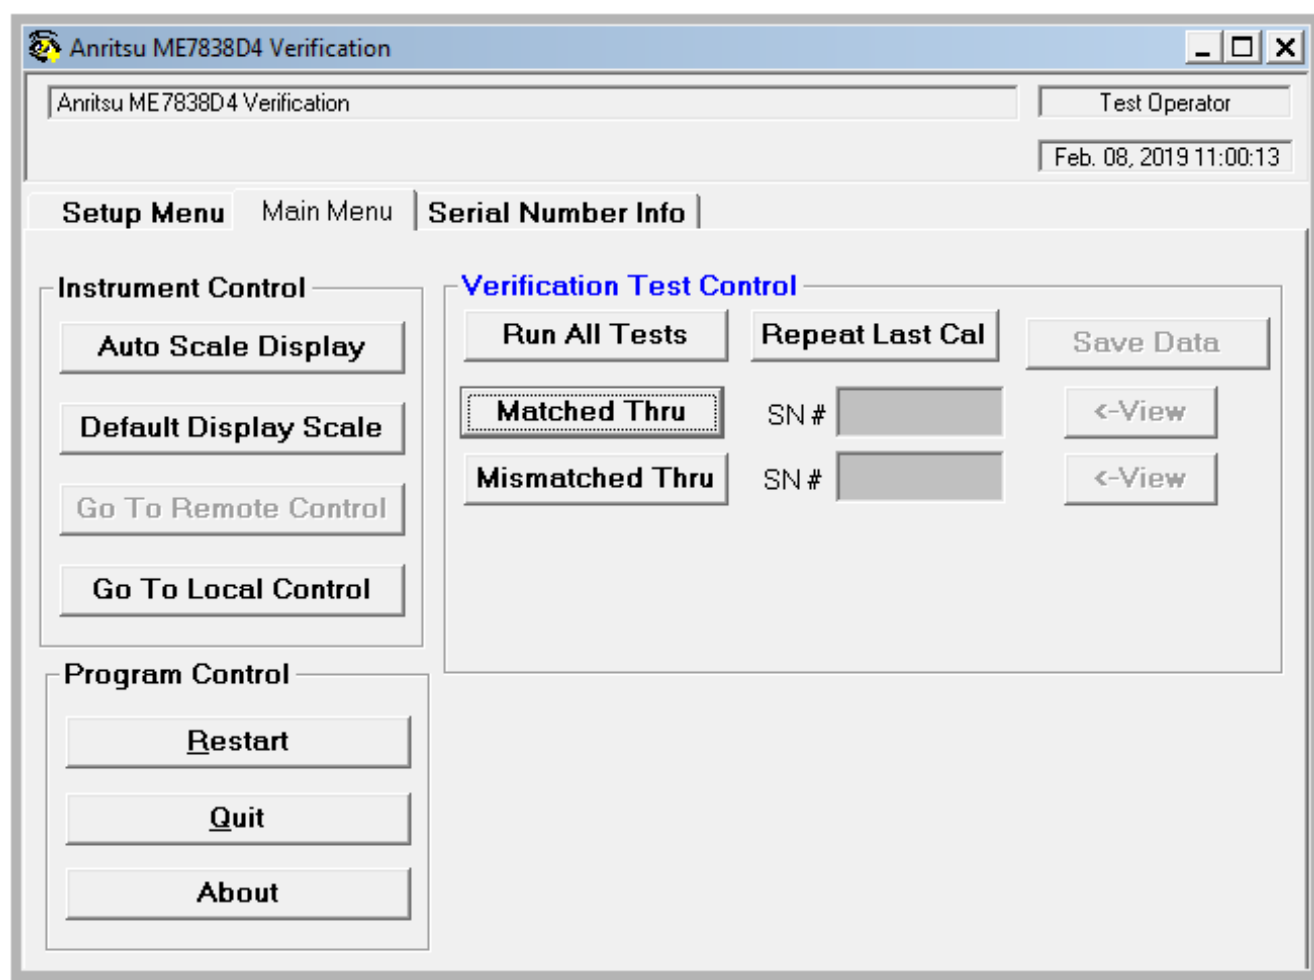

Figure 3-40. ME7838D4 Application Interface – Main Menu Tab
- The Main Menu tab display is described in Section 3-9, “Application Interface – Main Menu Tab” on page 3-26 and is shown in Figure 3-40.
This command button runs both the Matched Thru and Mismatched Thru tests. Program execution starts with Section 3-11 “Matched Thru Tests – Port 1/Port 2” on page 3-31 and then continues with Section 3-12 “Mismatched Thru Tests – Port 1/Port 2” on page 3-34. When both tests are completed, program execution returns to the Main Menu tab shown in Figure 3-40 on page 3-26.
This command button re-calibrates the VNA according to the CURRENT calibration. This provides a way to recalibrate the VNA without having to reset the program parameters in case the original calibration was flawed for some reason. When the calibration sequence is complete, program execution continues to the Main Menu tab shown in Figure 3-40 on page 3-26.
This command button only runs the Mismatched Thru tests. If selected, program execution continues in Section 3-12 “Mismatched Thru Tests – Port 1/Port 2” on page 3-34. When the tests are completed, the program returns to the Main Menu tab shown in Figure 3-40 on page 3-26.